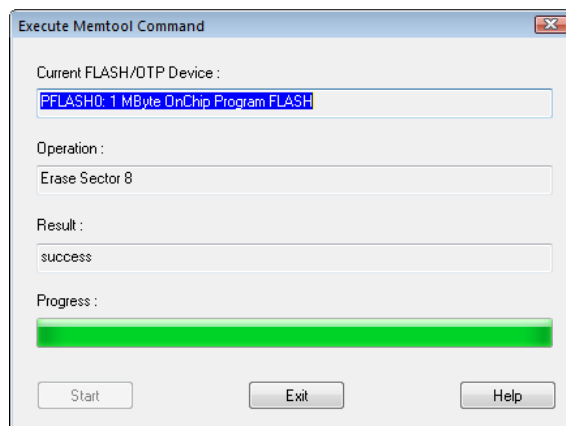

Figure 34 FLASH programming progress dialog
7. Start flashing with the **Program** button. A progress dialog appears (Figure 34). After successful programming close both dialogs.